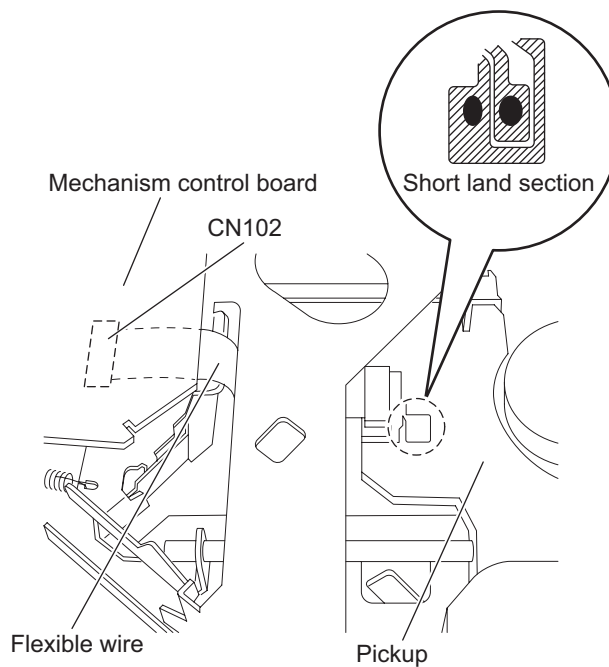

Fig.2
- (3) Solder the short land sections on the pickup. (See Fig.2.)
If the card wire is disconnected without attaching solder, the pickup may be destroyed by static electricity. (See Fig.2.)